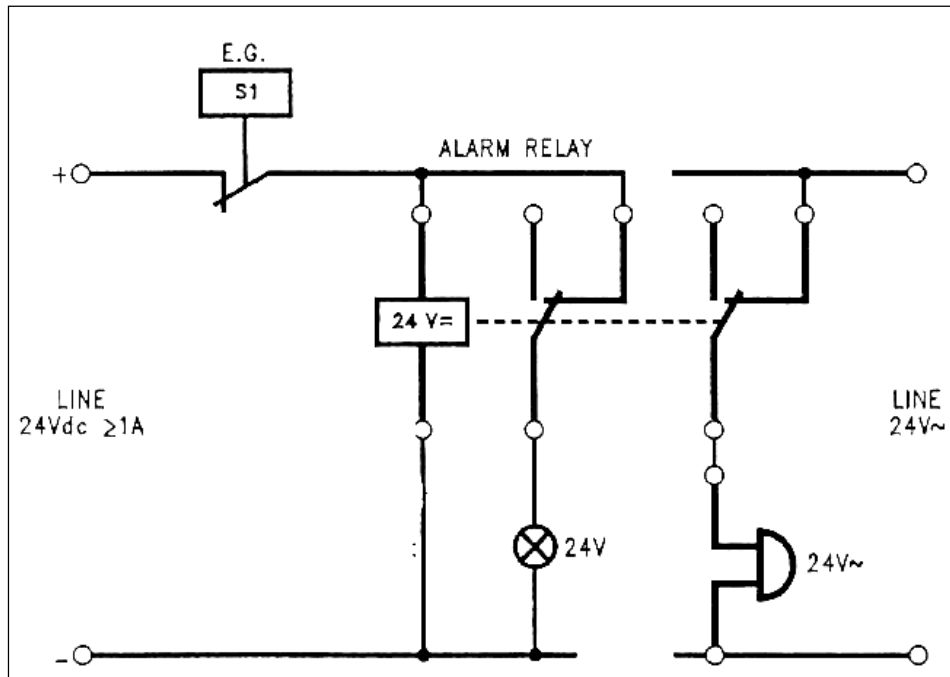

Figure 2.13 Usage diagram of an alarm relay connected to a protection relay with output on NC contact .
1. Follow the electrical diagram of figure 2.13